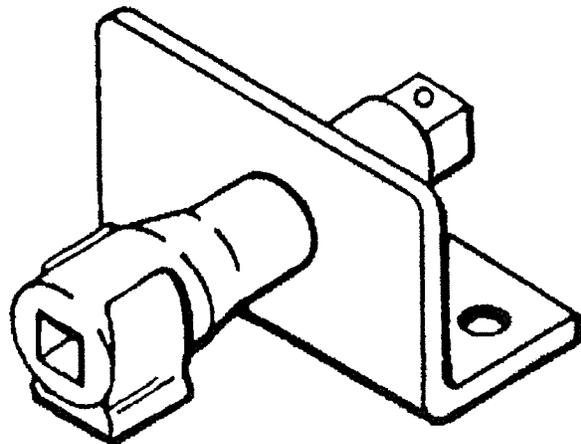

Figure 5-6. Ninety-Degree UPVC Bracket
- f. The ninety-degree UPVC bracket used in combination with finger clips (Figure 5-6) may be cut to any desired length. It is used to mount ratchets, screwdrivers, extensions, etc. to a flat surface.